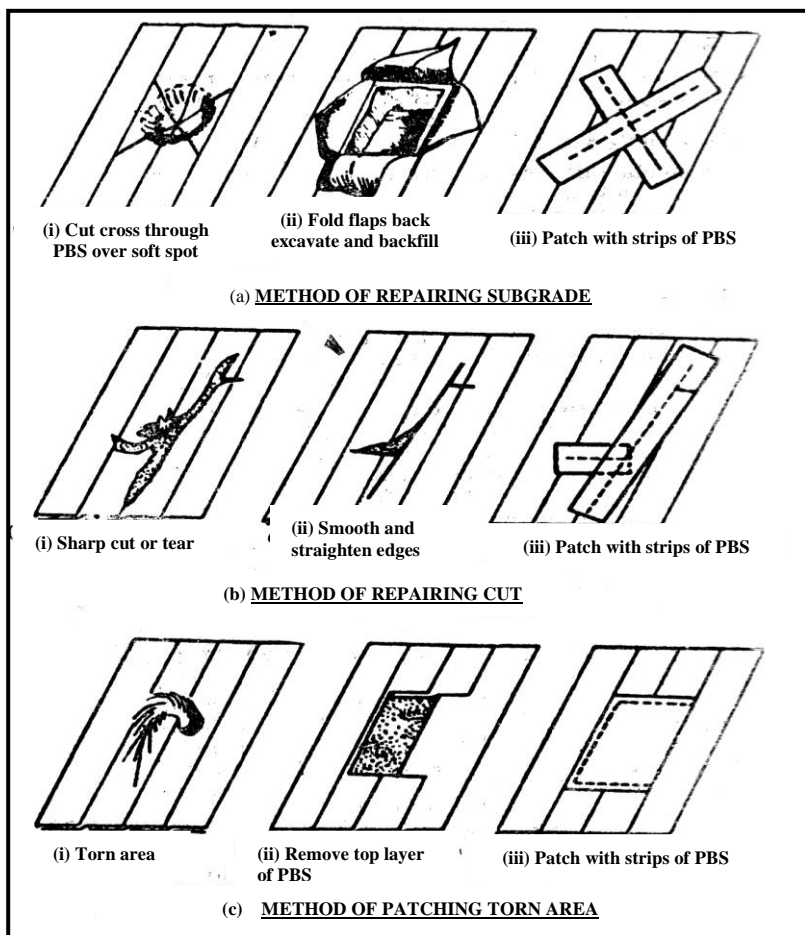

Figure 25-16: Methods of Patching Torn Area
- d. Daily inspection is essential. Soft spots, cuts and tears must be made good immediately (see Figure 25.16)